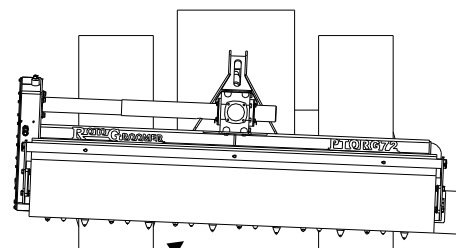

Fig. 2
4. Lift Roto-Groomer approx. 1 inch off of ground and adjust 3pth arm so that the Roto-Groomer is parallel with the floor. The distance should be the same (less than a 1/4") from side to side. See fig. 2.